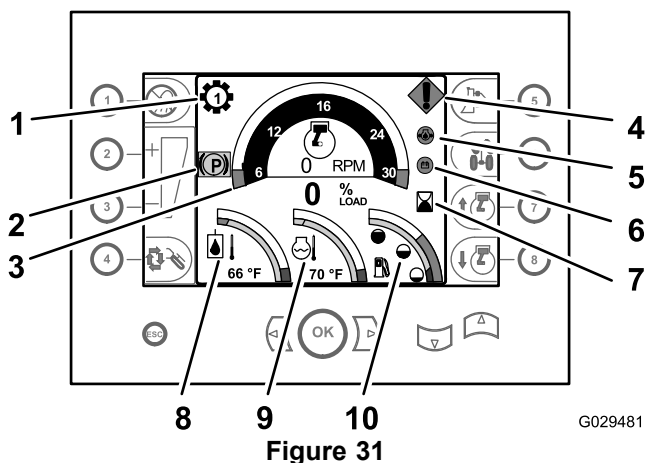
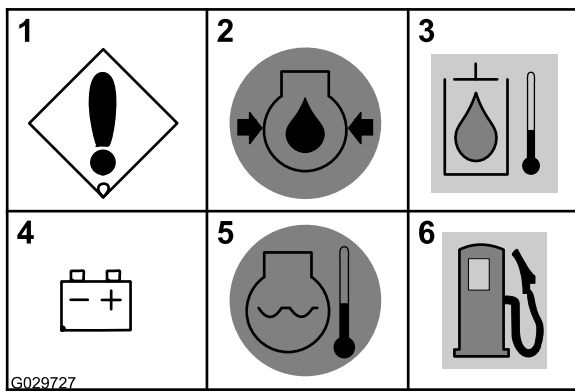

Figure 31
Figure 33
- **Gear indicator**—This indicator shows which gear is selected for the transmission (gears 1 through 4) and is displayed above and to the left of tachometer (Figure 31).
- **Tachometer**—The tachometer indicates the engine speed in revolutions per minute (rpm). The tachometer is displayed in the upper center of the command-center display (Figure 31).
- **Hour meter**—The hour meter indicates the number of hours that the engine has run. It is displayed in the center right area of the command display, to the right of the tachometer (Figure 31).
- **Hydraulic-fluid temperature indicator**—This indicator shows the operating temperature of the hydraulic fluid and is displayed in the lower left area of the command display (Figure 31).
- **Coolant temperature indicator**—This indicator shows the temperature of the coolant in the engine-cooling system. It is displayed in the lower center area of the instrument cluster (Figure 31).
- **Fuel-level indicator**—This indicator shows the remaining level of fuel that is in the tank, and it is displayed in the lower right area of the command display (Figure 31).
- **Parking-brake-on indicator**—This indicator is displayed while the parking brake is engaged (Figure 31). The indicator disappears when you release the parking brake.
- **Machine or engine error**—This message displays if the machine or engine experiences a fault. The cause of the fault is given in the Instrument Panel Diagnostics (Figure 33).
- **Low engine-oil pressure**—This warning message displays if the oil pressure of the engine is 90 Kpa (13 psi) or lower (Figure 31 and Figure 33).
- **High hydraulic-oil temperature**—This message flashes if the oil in the hydraulic system is 102° C (215° F) or higher (Figure 33)
- **Check alternator or battery**—This message displays if the alternator and battery voltage is 12 volts or less (Figure 31 and Figure 33).
- **Engine overheated**—This message flashes if the engine coolant is 104° C (220° F) or higher (Figure 31 and Figure 33).